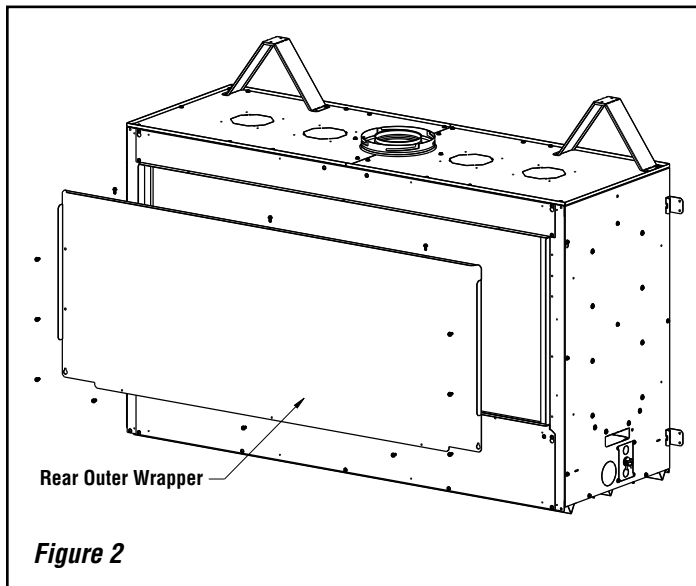

Figure 2
1. Remove the rear outer wrapper from fireplace (see **Figure 2**).